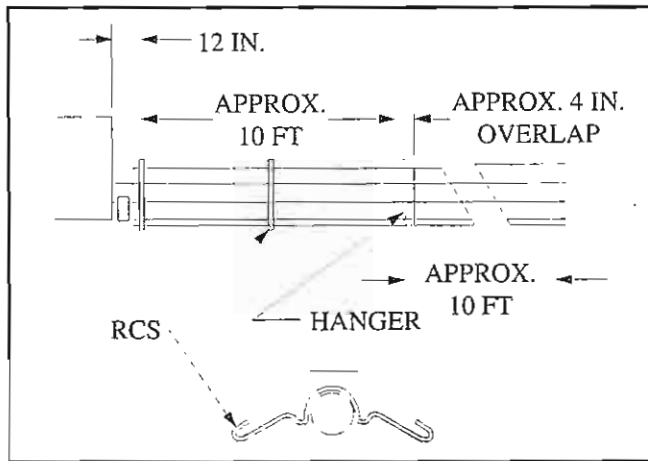
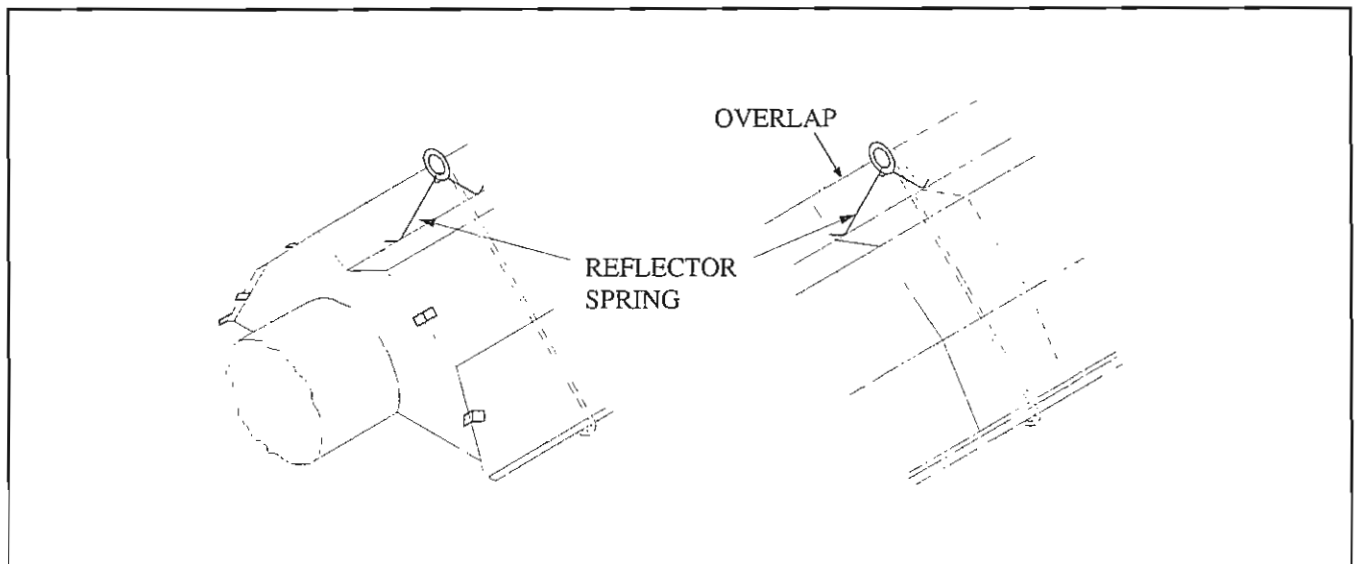

Figure 1-13
Figure 1-14
1. Install reflector center supports RCS as shown in Figure 1-13.
2. Slide reflector through wire hangers and adjust the reflector positioning spring in the V-groove on top of the reflector as shown in Figure 1-14. Overlap reflectors 4 in. for support (see Figure 1-13).
3. Install reflector end caps at exposed ends of the reflector runs with clips (Figure 1-14).